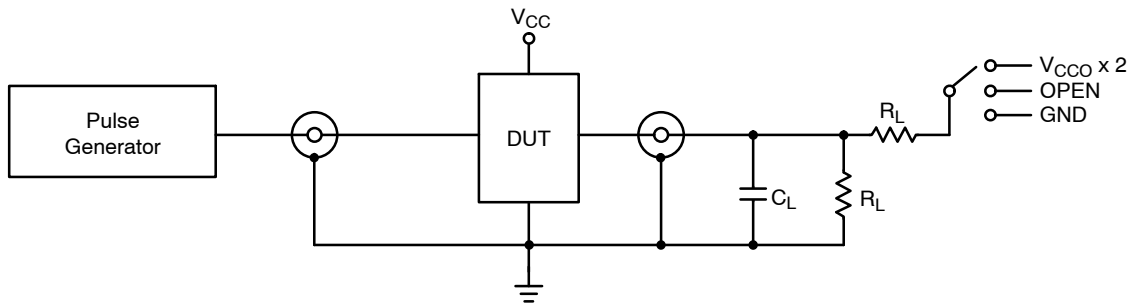

Figure 3. AC (Propagation Delay) Test Circuit
1. Propagation delays defined per Figures 3 and 4.
($C_L = 50$ pF, $R_L = 2$ k Ω , $R_{pull-up} = 50$ k Ω , test circuit shown in Figure 3)
($C_L = 50 \text{ pF}$, $R_L = \infty$, $R_{\text{pull-up}} = 2 \text{ k}\Omega$, test circuit shown in Figure 3)